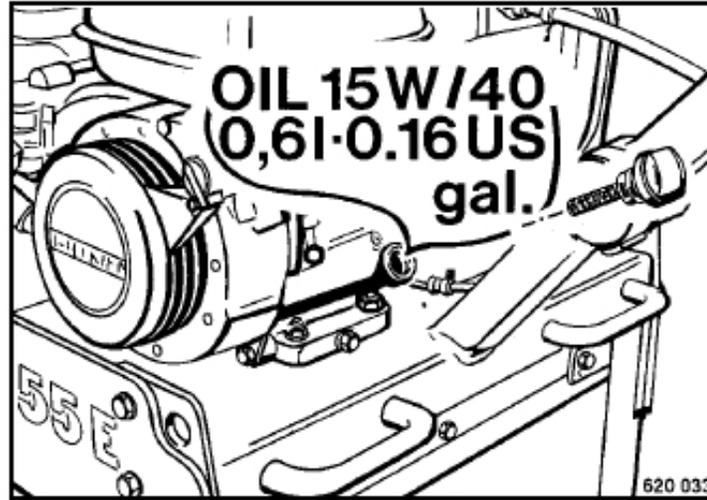

Fig. 36
- | Place the engine horizontally and fill in oil through the filler opening (Fig. 36).